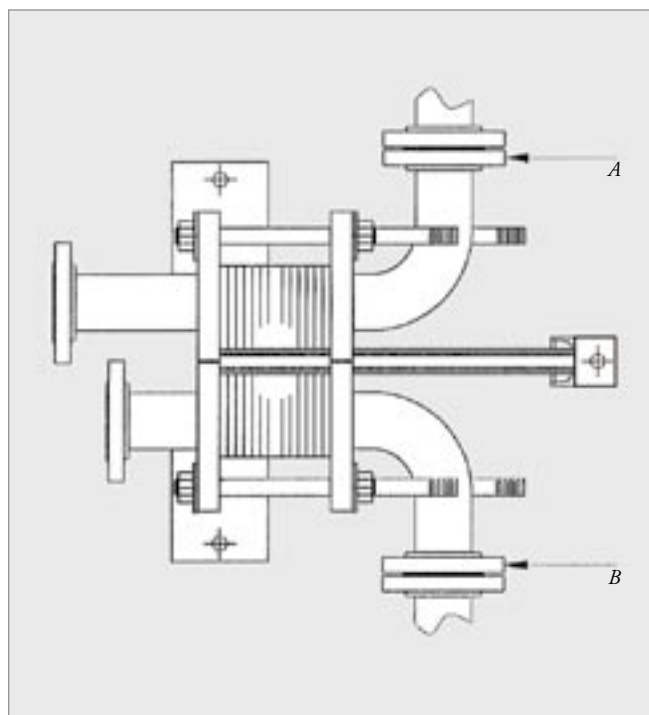

Figure 39
2. Locate the unit in an area that is not congested with piping and other equipment. For units with nozzles on the movable frame, refer to Figures 39 and 40 on page 29.